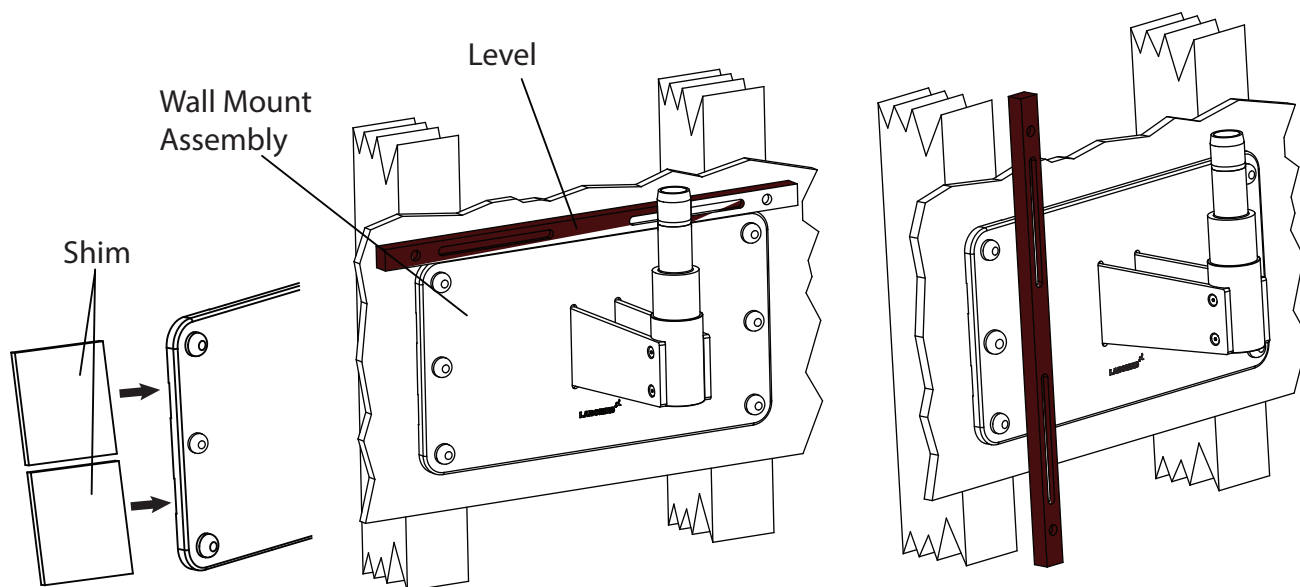

Fig .27
2. Place a level across the top of the back plate to check the horizontal leveling. See Figure 27 .
5. Place a level vertically along the face of the wall Mount, on both sides, to ensure it is perpendicular to the floor. See Figure 27 .